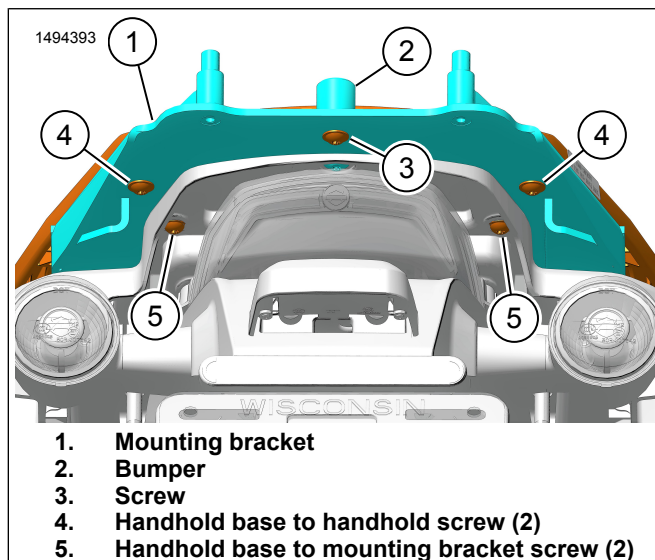
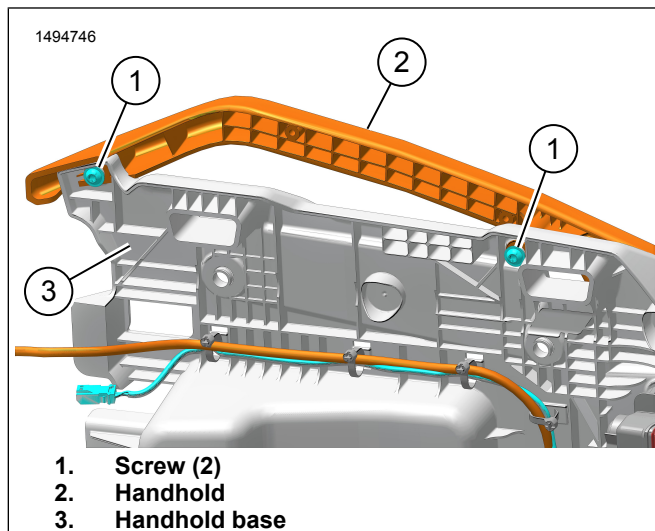

Figure 9. Rear Mounting Screws
Figure 10. Handhold
- b. See Figure 9. Install handhold base to mounting bracket screws (5). Tighten.
7. See Figure 10. Install handhold (2).
- a. Loosely install screws (1) on both sides.
- b. See Figure 9. Install handhold base to handhold screws (4).